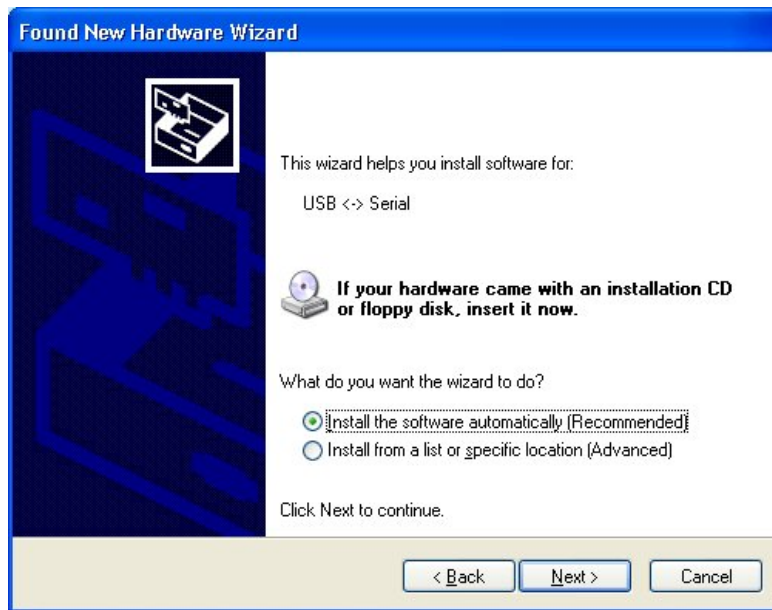

Figure 5: Windows needs to know where to find the software.
4. A new dialog is displayed. Windows asks where it can find the software. Select **Install from a list or specific location (Advanced)** (see Figure 5). Press the **Next** button.